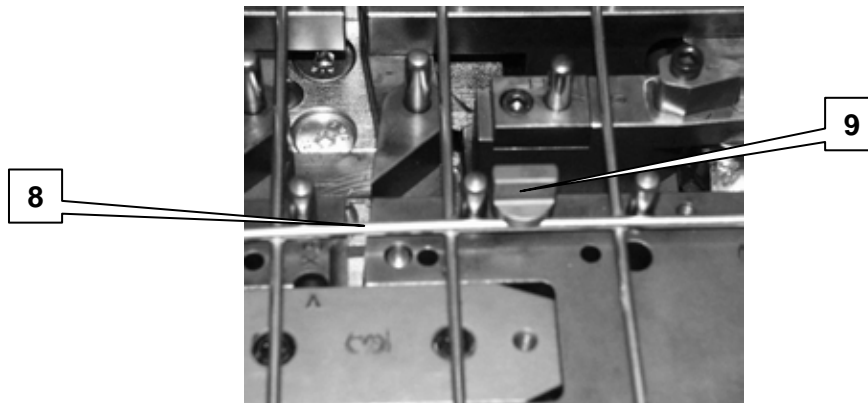

Fig. 4.68 – Knob application
6. If any part of transversal wire **8** is slightly lifted (> of 3 mm) or if during bending the wires tend to lift, apply knobs for keeping wires near arms. Usually this drawback is due to a gangway buckled during handling or previous bending. In this case it is useful to apply knob **9** by screwing it clockwise until the wire is blocked (fig. 4.68).